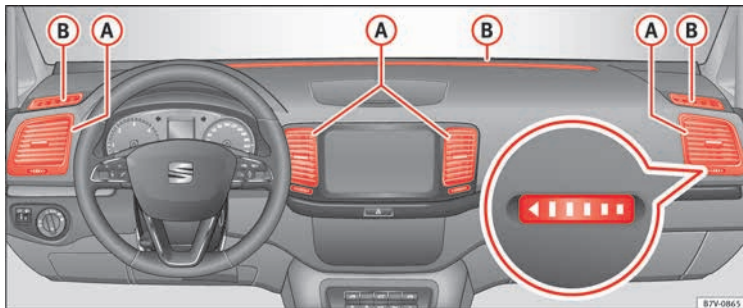

Fig. 197 Air vents in the dash panel
Never close the air vents » **Fig. 197 (A)** completely to ensure heating, cooling and ventilation inside the vehicle.